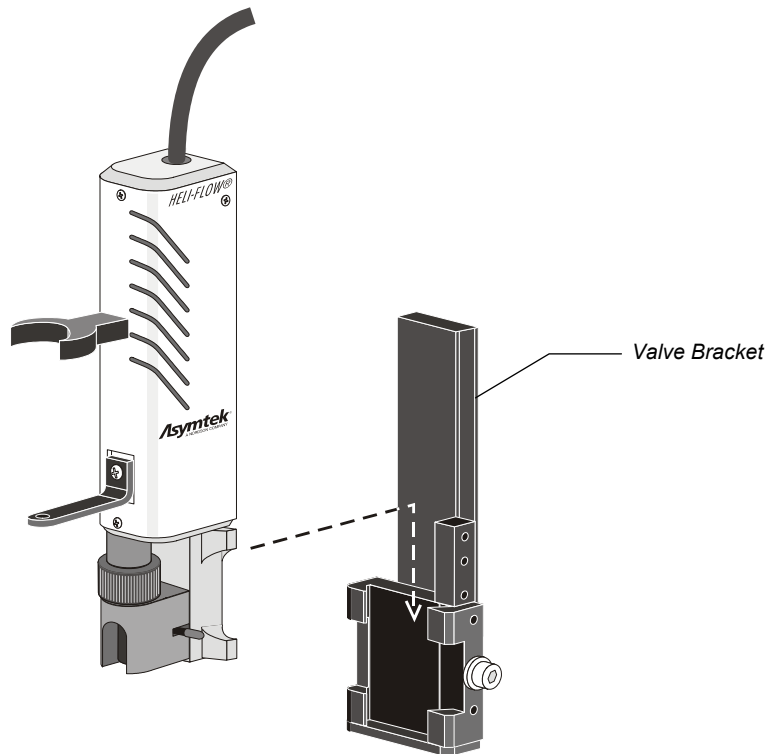

Figure 3-1 Attaching the Valve Bracket (Century Series System)
3. Slide the valve into the valve bracket (Figure 3-1).